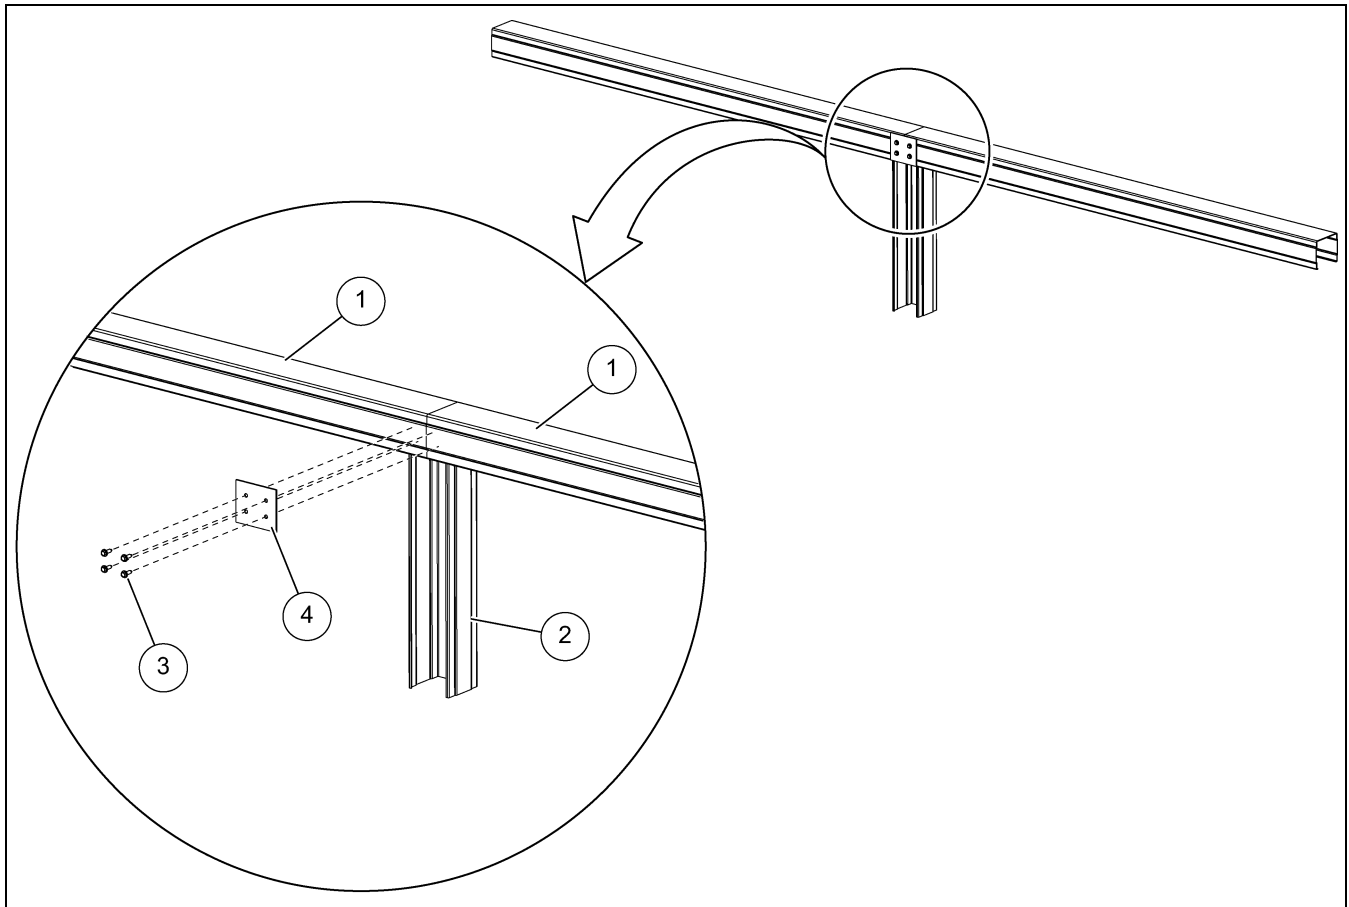

Figure 4H *Installing the Monorail Splice Plate*
3. Use the four self-tapping screws (3) and the monorail splice plate (4) on the other side of the monorail joint as shown in *Figure 4H*. (**NOTE:** See the orientation of the monorail leg (2) in *Figure 4H*.)